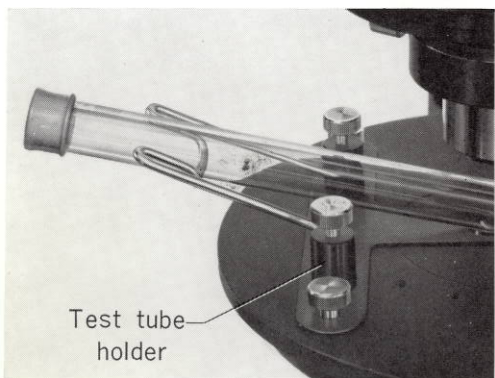

Fig. 32
- When observing a specimen in a test tube, it is convenient to attach the test tube holder to the stage (Fig. 32), which is available at extra cost. To lock the stage in position, use the clamp screw found on the bottom of the stage.